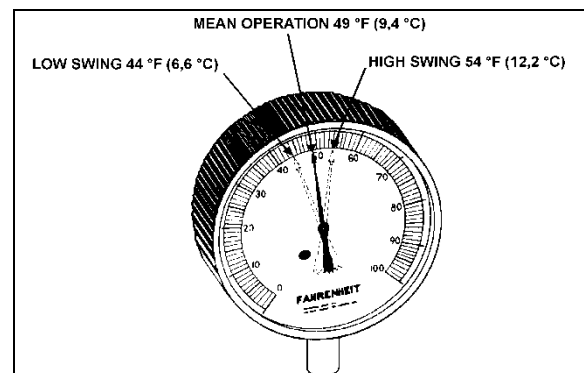

FIGURE 73: HIGH & LOW SWING TEMPERATURE AT REMOTE BULB
6. Check approximately 5 readings of pressure at 2-minute intervals and convert to temperature using the vapor-pressure table. Likewise check the temperature reading at the remote bulb at the same 2-minute intervals and record the low and high swing readings of the needle (Figure 73).